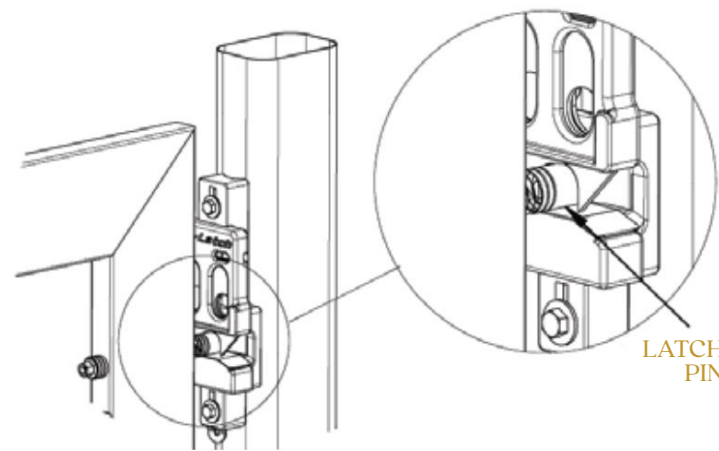

Figure 6
2. Lift the gate over the gate post. This can be done with a skid steer or lifted by a crew of 2-3 people (Figure 6).
5. Push the latch upward to contact the latch pin and torque the mount screws to 27 Nm (Figure 6).